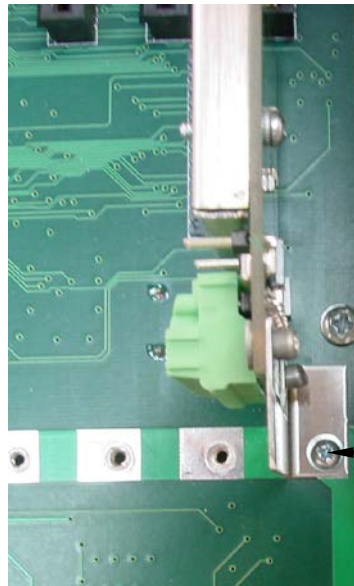

Figure No. 28
1. Reinstall the 825-SIB into the enclosure and secure it to the main PC board with the screw removed earlier. See Figure No. 28.